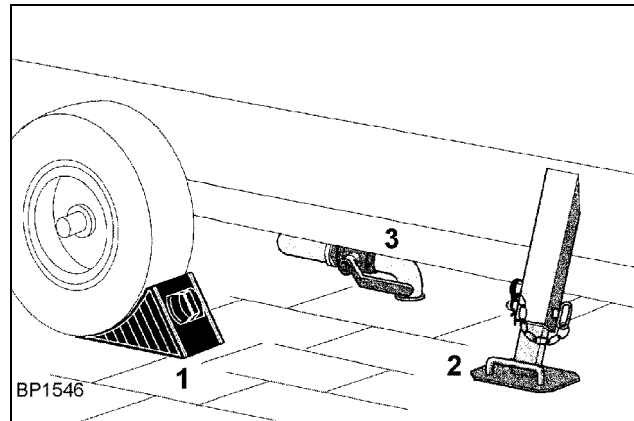

Fig. 4
Drain any polluted water with the drain valve (3) (Fig. 4) on the bottom and fill with clean water up to the top edge of the pumping pistons.